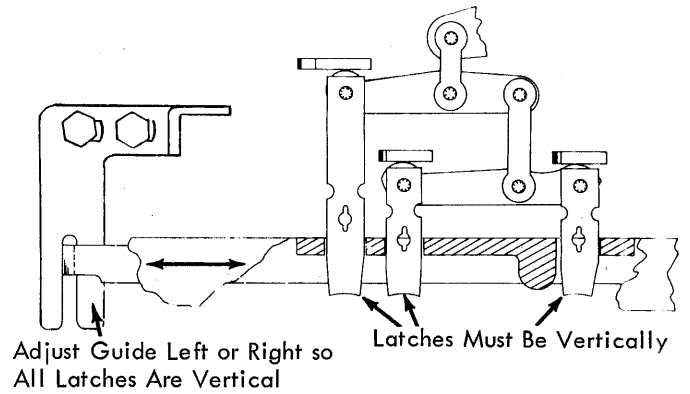

FIGURE 15. Latch Bail Guide
- b. The latch bail guide should be adjusted left or right so that all positive rotate and tilt selector latches hang vertically in the latch bail. The guide is attached to the lower left corner of the differential mounting bracket (Fig. 15).